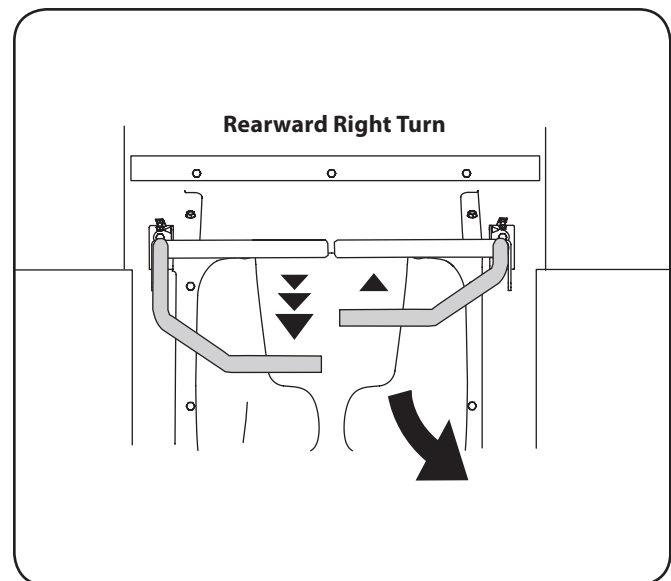

Figure 5-7
2. To turn to the right while traveling in reverse, move the right drive control lever forward of the left lever. See Figure 5-7